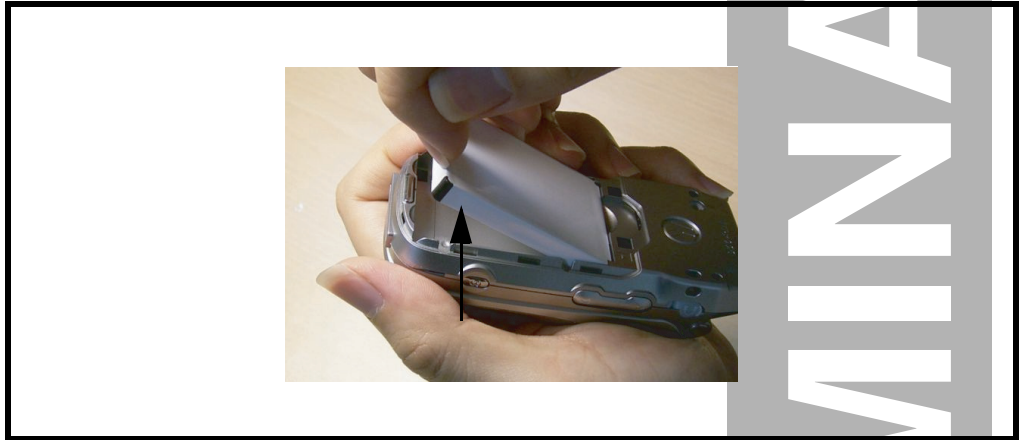

Figure 6. Removing the Battery
2. Remove the battery door by pressing the latch and sliding the battery door right and away from the phone as shown in Figure 6.
2. Remove the battery by lifting its bottom end and taking the battery up and away from the battery compartment as shown in Figure 6.